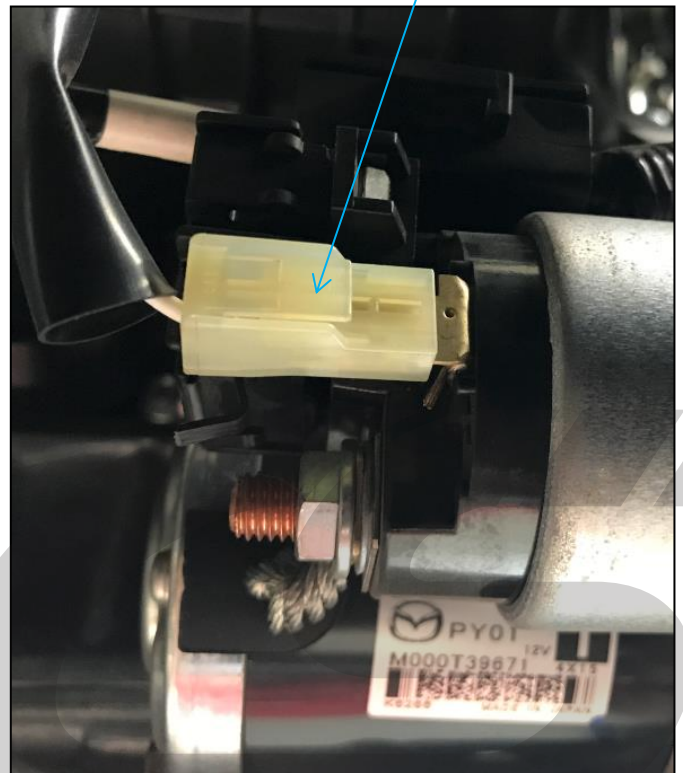

Figure 4b
- b) Disconnect the white plastic clip from the starter shown in **Figure 4b**.